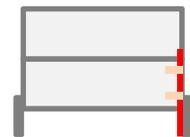

Figure 1b
7. Move the pen to the right side of the LVE as shown in Figure 1b